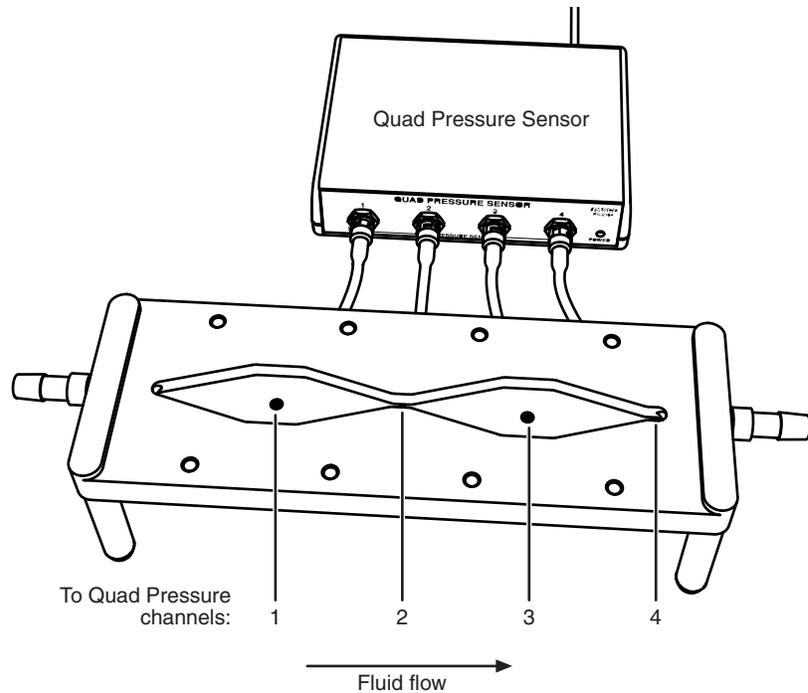

Figure 2: Quad Pressure Sensor connected to apparatus
3. Connect each of the four pressure tubes extending from the underside of the apparatus to the ports of the Quad Pressure Sensor as indicated in Figure 2.